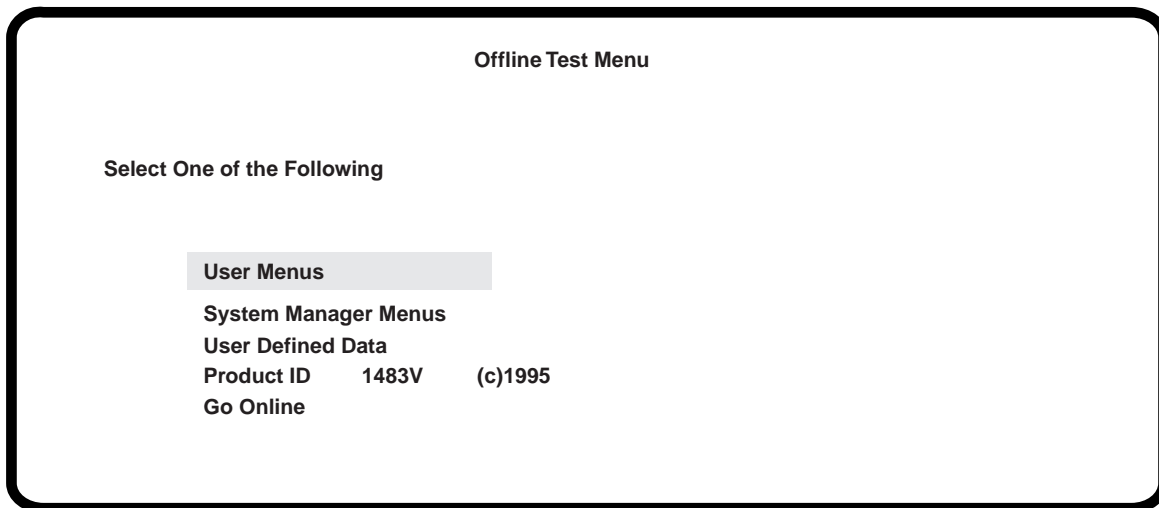

Figure 2-2. Offline Test Menu
- 2) Turn the Power On/Off switch to **Off (O)** .
- 4) Continue to hold the space bar down until a screen like the one in Figure 2-2, below, is displayed. You may need to adjust the Brightness or Contrast control.